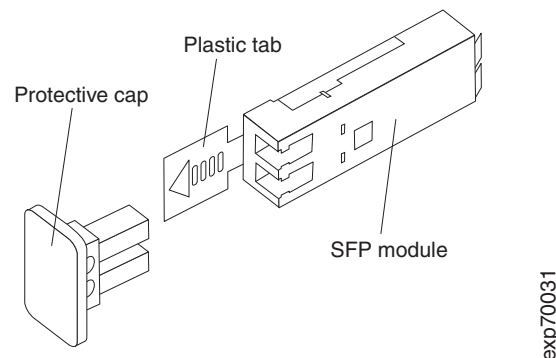

Figure 20. Small Form-Factor Pluggable (SFP) module
2. Remove the protective cap from the SFP module, as shown in Figure 20. Save the protective cap for future use.
2. If necessary, remove the protective cap from the SFP module, as shown in Figure 20 on page 33. Save the protective cap for future use.